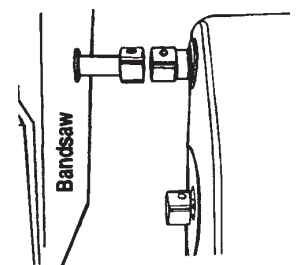
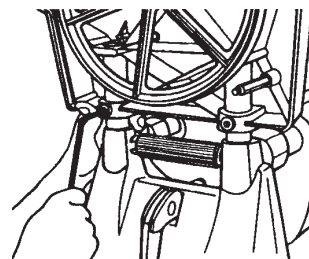

Fig. 9
Fig. 10
7. Vertically align the Bandsaw hub to the Mark V hub (shown in Fig. 9) by lifting the Bandsaw until the tops of the hubs are at the same height. When holding the Bandsaw in vertical alignment, use a 5/32" Allen wrench to tighten both setscrews, as shown in Figs. 10 and 11. You may want a helper to lift and hold the Bandsaw while you are tightening the setscrews.